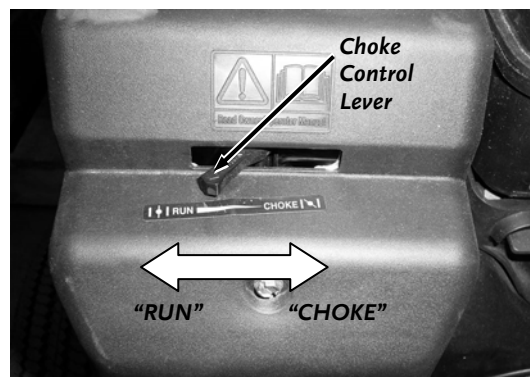

Figure 19
2. Move the Choke Control Lever to the “CHOKE” position (**Figure 19**) (leave in the RUN position if the engine is already warm).